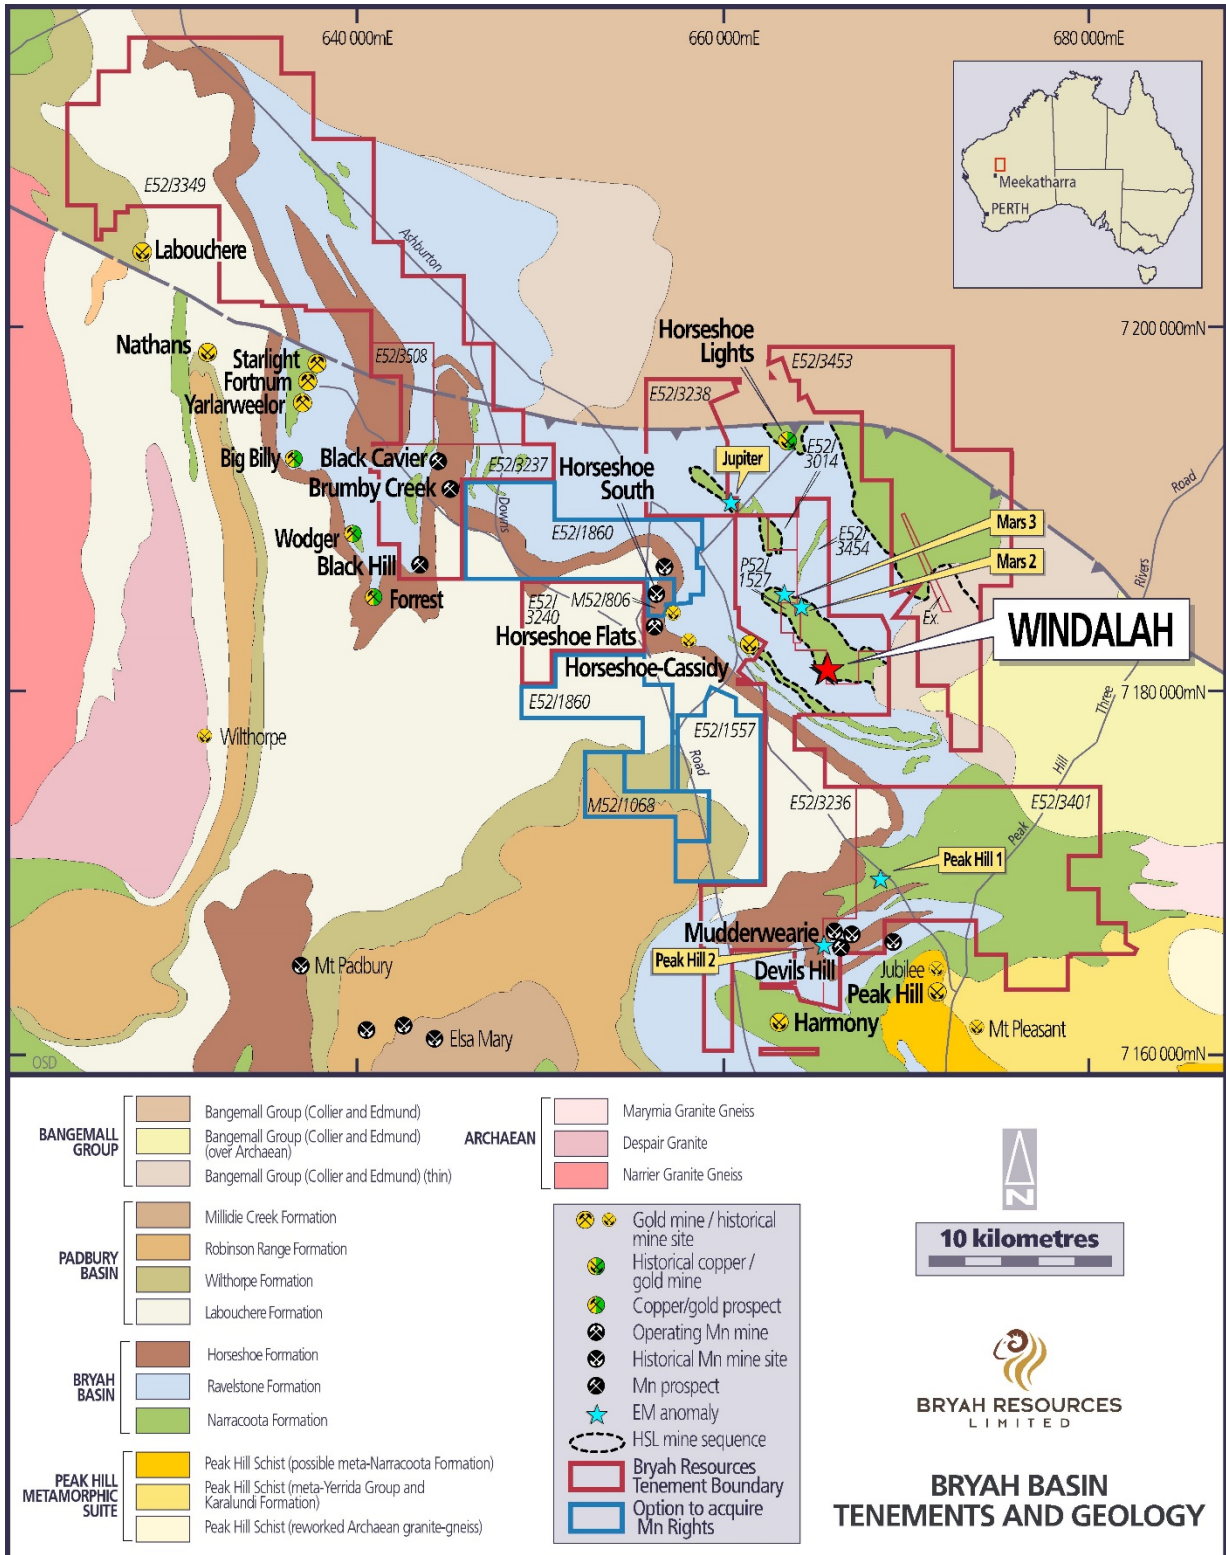

Figure 1 – Bryah Basin Tenements and Regional Geology Map showing EM anomalies identified by recent EM surveys.
The Company commenced Reverse Circulation (RC) drilling in August 2018 with the aim of testing up to six conductors identified by recently completed airborne Versatile Time-Domain Electromagnetic (VTEM) and ground Moving Loop Electromagnetic (MLEM) surveys. The electromagnetic (EM) anomalies are named Jupiter, Windalah, Mars 2, Mars 3, Peak Hill 1 and Peak Hill 2 as shown in Figure 1. A total of 6,194 metres of drilling was completed in 46 holes during the programme.
Recent geological reconnaissance work has confirmed that the Windalah Prospect lies on the contact of the Narracoota Formation and the overlying Ravelstone Formation, commonly referred to as the “Horseshoe Lights (HSL) Mine Sequence” (see Figure 1). This stratigraphic position is considered to be the most prospective for repetitions of Volcanogenic Massive Sulphide (VMS) copper-gold deposits, such as seen at Horseshoe Lights.